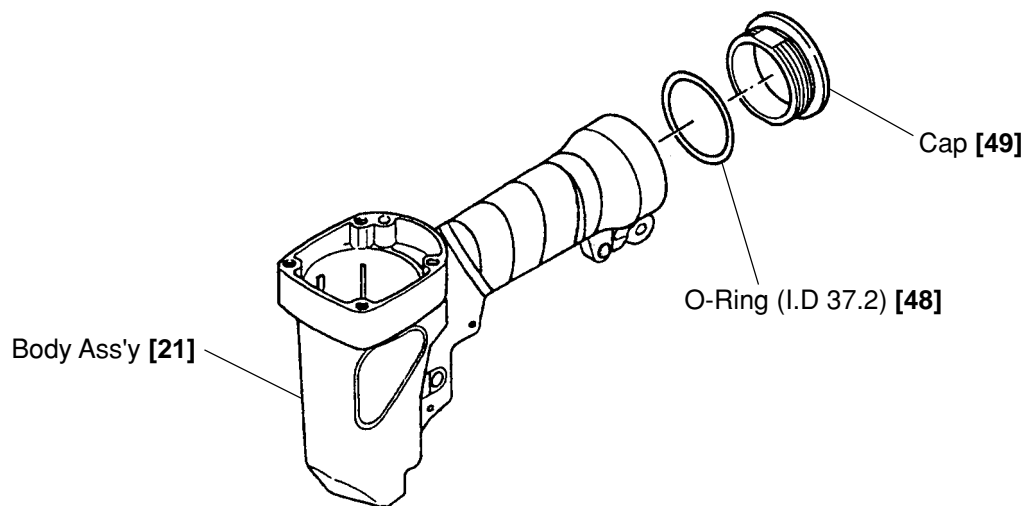

Fig. 24 Disassembly and reassembly of the cap
(1) Disassembly and reassembly of the Cap [49] (See Fig. 24)